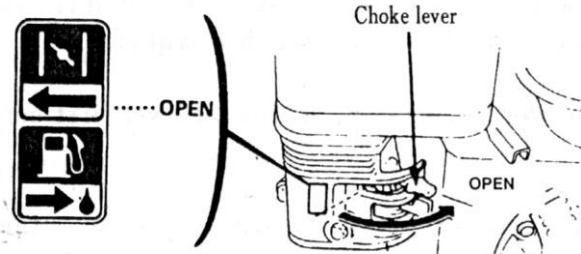

Fig. 17
1. Preheat the engine and push back the choke lever to “OPEN”(Fig. 17).